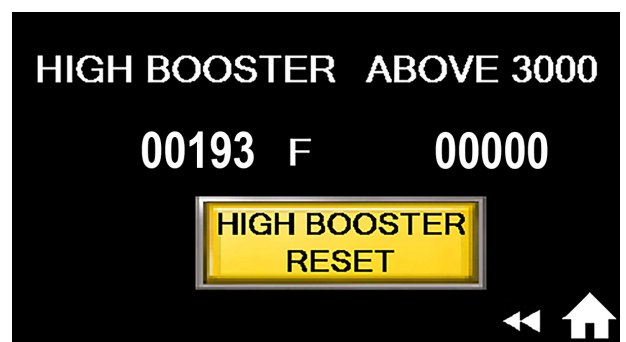

Fig. 69- High booster menu
1. Press the High Booster button, (Fig. 69).